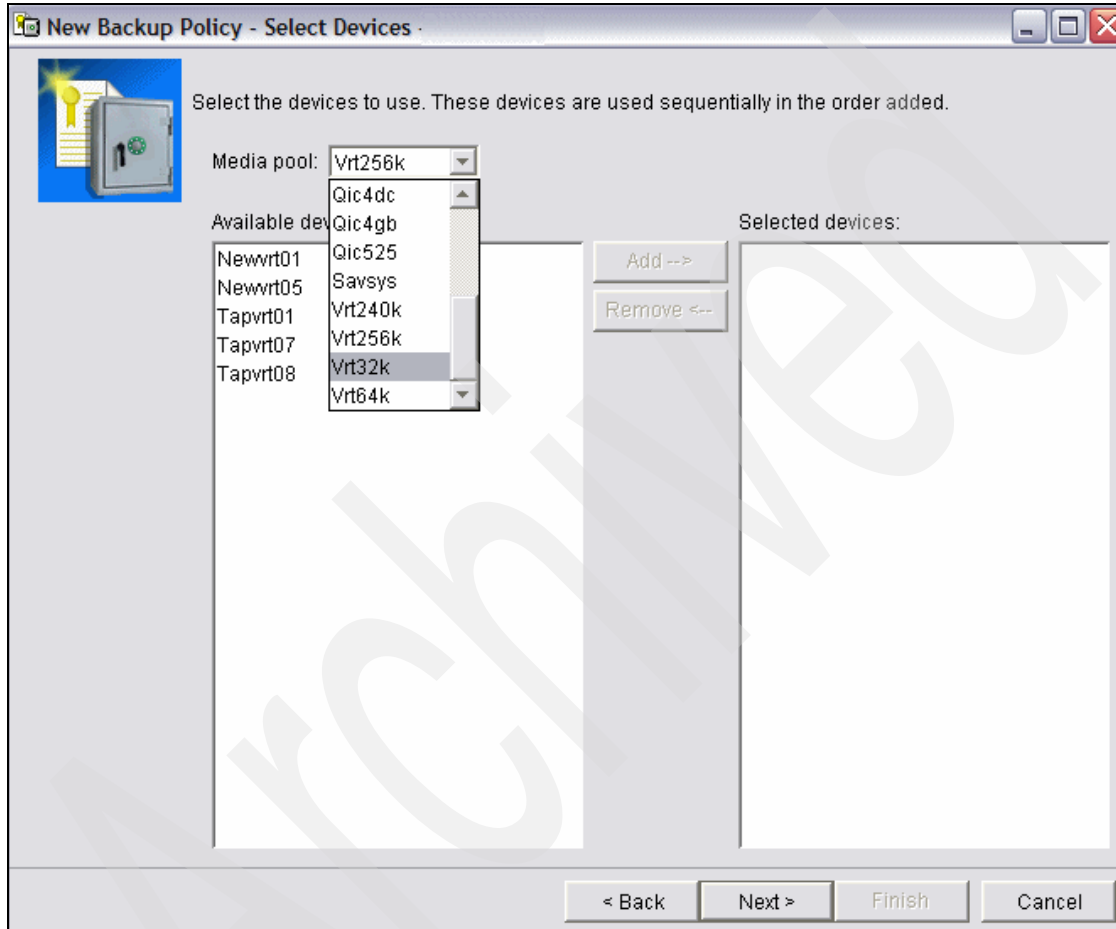

Figure 7-25 Select media class
1. Select the media pool you want to use in the window shown in Figure 7-25 on page 357. Select **Vrt32k** against Media pool.